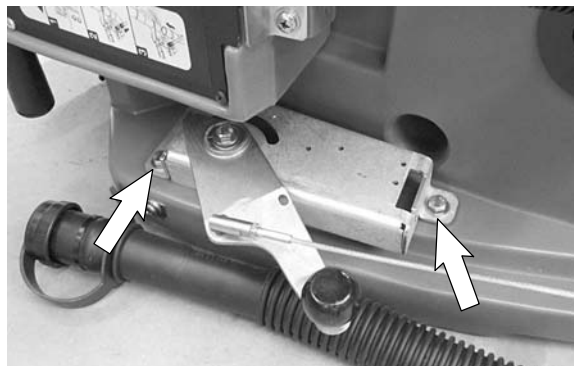

Fig. 3
6. Using two M8x1.25x20 hex screws, internal lock washers and flat washers, supplied with kit, mount the lift handle bracket to machine as shown (Figure 3).